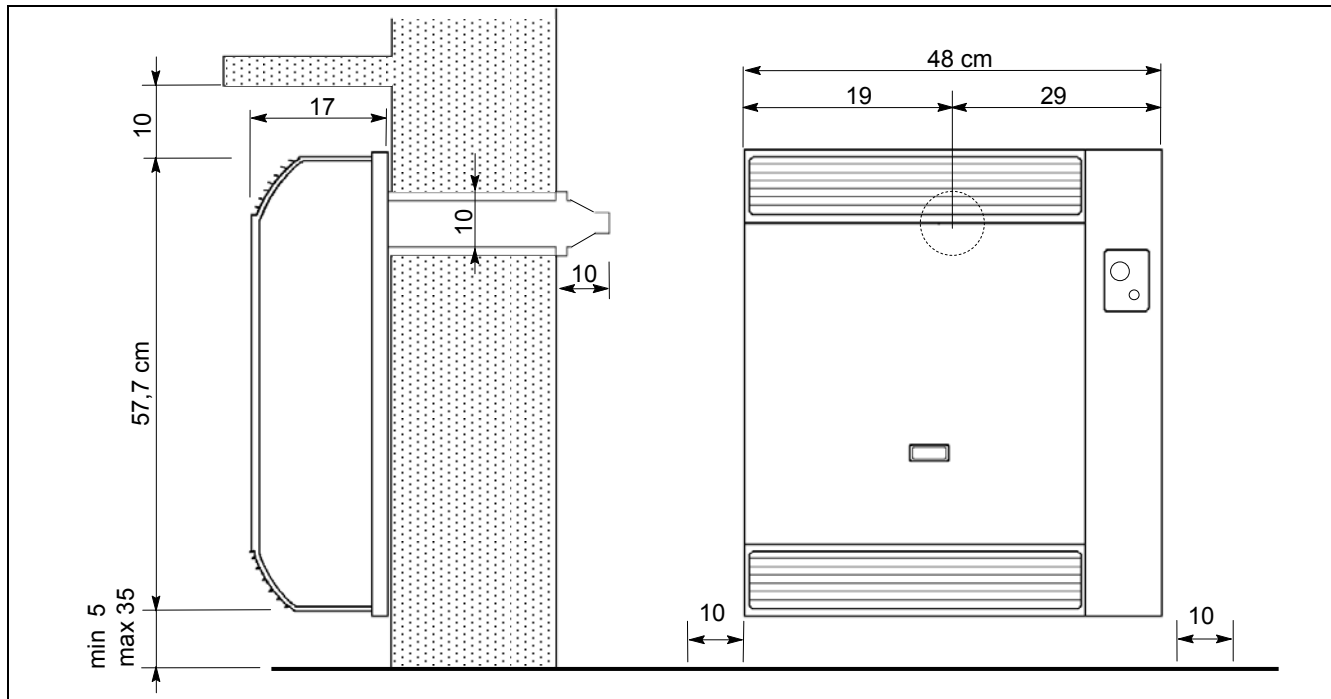

Figura 1 – EXTERNAL DIMENSIONS AND INSTALLATION LIMITS
1. The gas convector must be installed indoor on an external perimeter wall, respecting the distances indicated in Figura 1, so that a minimum space for technical service and maintenance is foreseen. The minimum recommended distance from the basement is 5 cm and possibly not superior to 35 cm because, for bigger height, there will be a non uniform distribution of the heat in the building.